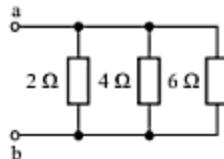

Fig. 2.53
31. (a) Find the equivalent resistance of the parallel combination shown in Fig. 2.53. (b) If 10 A current enters the parallel combination at point a , what is the current flowing downward in the 6Ω resistance? (c) What is the current flowing upward in the 2Ω resistance? (d) What is the voltage V_{ab} for this current?